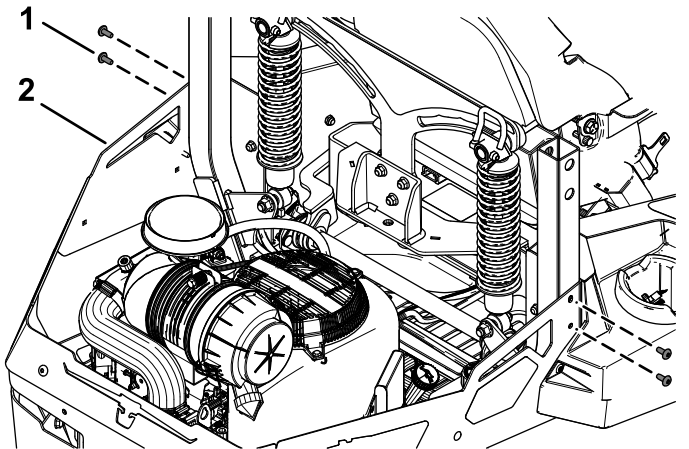

Figure 1
3. Remove the 4 button-head bolts (5/16 x 3/4 inch) from the rear guards (Figure 1).
7. Secure the previously removed 4 button-head bolts (5/16 x 3/4 inch) to the rear guards (Figure 1).